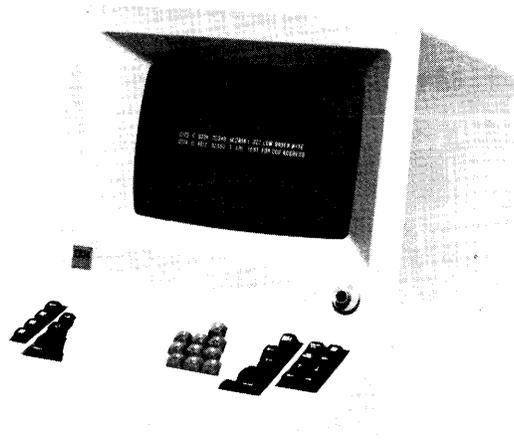

Figure 5-8. IBM 4979 Display Station
The IBM 4979 Display Station (Figure 5-8) is a data entry/operator station for the Series/1. It serves as a communication link between the user and the system. It provides image display of data transmitted to or from the processor. The display station enables the user to (1) retrieve data from the processor, (2) enter, modify, or delete data on the display, and (3) cause the revised data to be returned to the processor. The 4979 attaches to the Series/1 by means of the 4979 Display Station Attachment Feature, which can be plugged into either the processor unit or an I/O expansion unit.